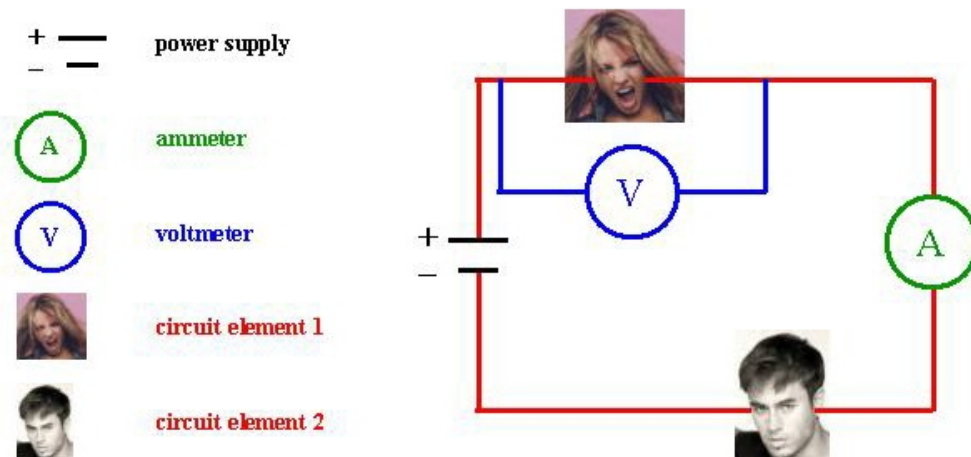

Fig. 6: The experimental circuit
1. Assemble the circuit shown in figure 6.